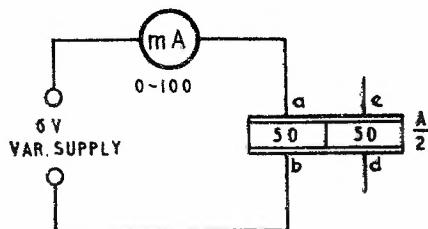

FIG. 1.
- STEP 2. Connect the circuit as shown in Fig. 1.